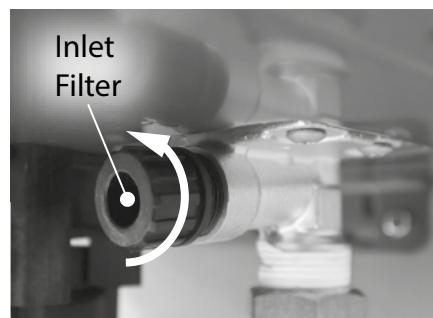

Figure 2 - Removing the inlet filter
- 8** Locate and remove the inlet filter as shown in Figure 2 to drain any residual water left in the system. Place a bucket or pan underneath inlet filter to collect water during removal.